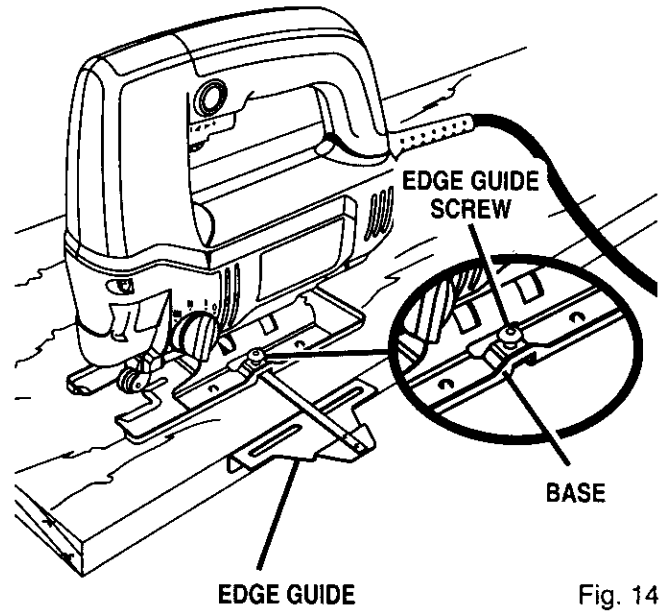

Fig. 14
See Figure 14.
- Insert arm through the two slots in the base of your saw as shown in Figure 14.